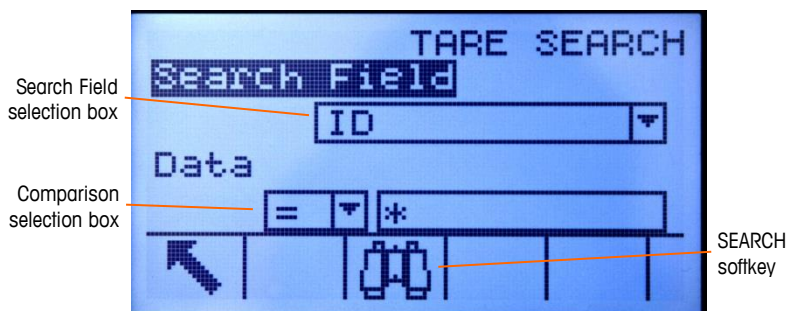

Figure 2-22: Search Screen (Tare Table)
7. Press the VIEW TABLE softkey to select a sub-set of records from the table. The Search Screen for the selected report type displays (see Figure 2-22).